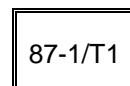

Figure 10. Nameplates on the front of the cabinet
- *Nameplates installed in the front:* these will be installed just below the equipment, according to the functional identification in the wiring diagrams (see example in figure 10).